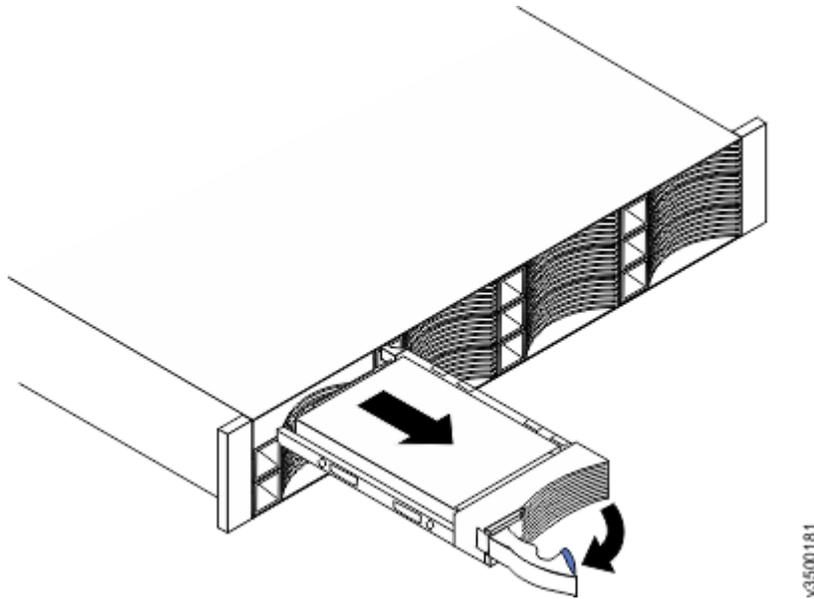

Figure 113. Unlocking and removing a 3.5-inch drive from its slot
5. Pull out the tray handle to the open position (see Figure 113 on page 177).